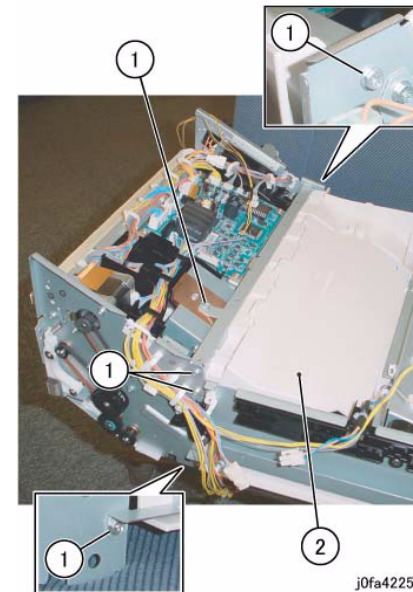

Figure 4 Removing the Stacker Tray Assembly (j0fa42250)
10. Remove the Stacker Tray Assembly. (Figure 4)